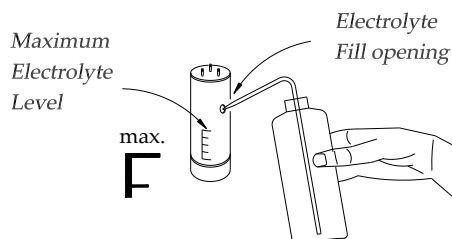

Fig. 5.1.10
8. Holding the sensor with the membrane pointing downwards, pour fresh electrolyte from the dispenser bottle into the electrolyte supply opening until the electrolyte in the sensor reaches the 'MAX' level (fig. 5.1.10).